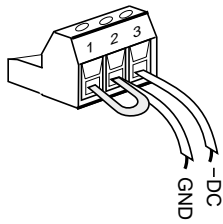

Figure 2 3-position terminal strip showing DC output connected for a positive ground scheme.
**3.7 SELECTING THE DESIRED DC OUTPUT SCHEME** As mentioned previously, the DC output is floating (isolated) in respect to earth ground. The DC output can be connected to the equipment to be powered in this manner, or it can be referenced to earth ground. In telecommunications applications it is typical to utilize a positive ground, with the output configured to be -48Vdc in respect to earth ground. This is easily accomplished by strapping terminal strip pin 1 (ground) to pin 2 (+DC) and using this combination as the ground connection to the load, shown in Figure 2. The -48Vdc is then connected from pin 3 (-DC) to the load. Note that pin 1 is internally connected to the Model 723 chassis and the safety ground wire of the power cord.